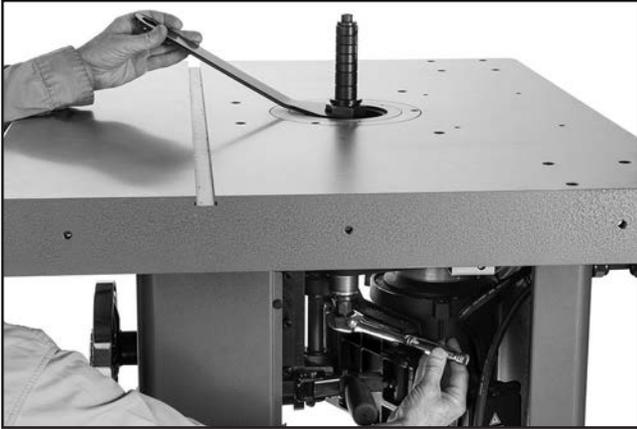

Figure 17. Tightening drawbar nut (fence removed for clarity).
- Secure spindle nut with spindle wrench and tighten drawbar nut (see **Figure 17**). **DO NOT** use excessive force.